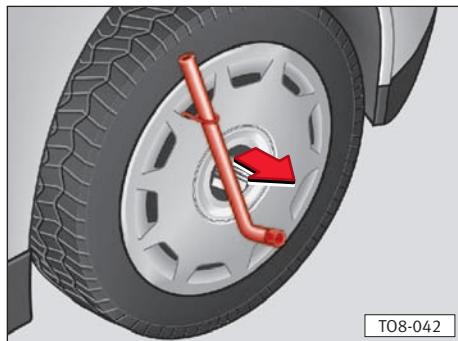

Fig. 135
- Remove **central cover** with the wheel spanner and the wire hook*. Put the wire hook in one of the recesses of the wheel trim. Pass wheel spanner through hook and lever trim off ⇒ fig. 135.